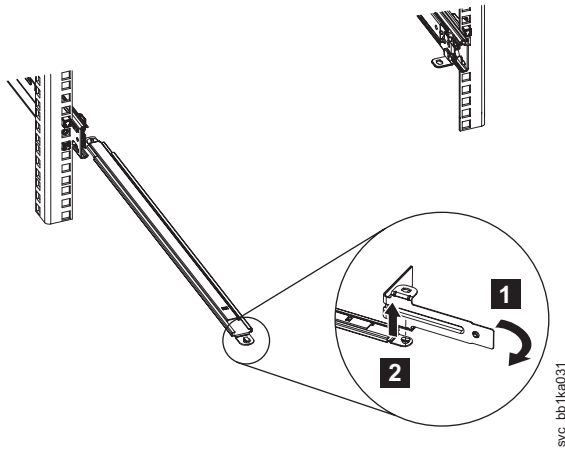

Figure 14. Removing the SAN Volume Controller 2145-CF8 cable-management stop bracket
8. Remove the L-shaped cable-management stop bracket on the unattached end of the support arm. Turn the bracket, as shown by **1** in Figure 14 on page 30 to free it from the support arm. Then lift the cable-management stop bracket **2** from the support arm.